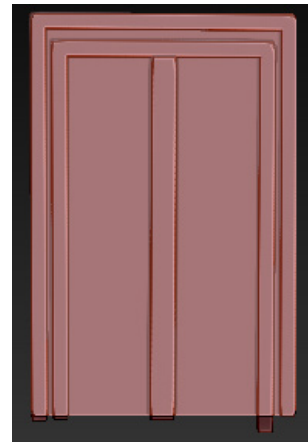

Figure 3-101 A vertical partition created in the middle of the door
9. Set the value of the **Draw Size** slider to **15** and the value of the **Z Intensity** slider to **10**. Press and hold the left mouse button and draw a vertical line in the middle of the *door* to create a vertical partition, as shown in Figure 3-101.